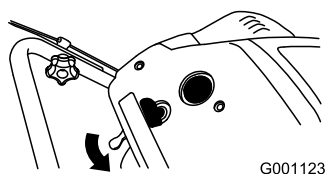

Figure 15
2. Move the choke lever to the right (Figure 15).